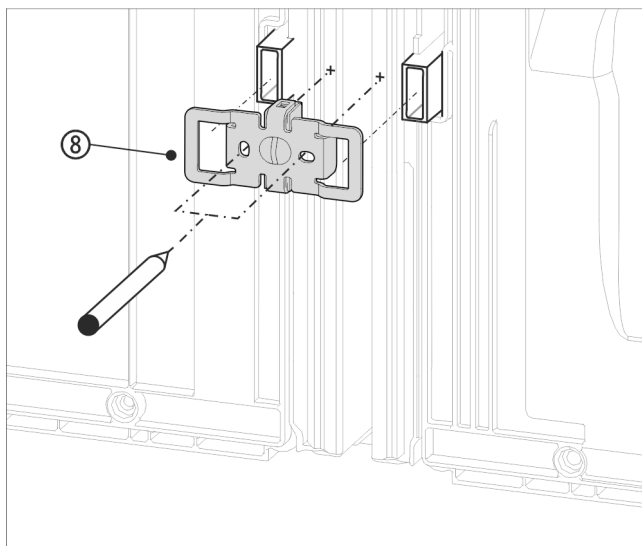

Fig. 15 Example illustration
- Slide the bracket Fig. 15 (8) with the slots over the retainer for the wall spacers.